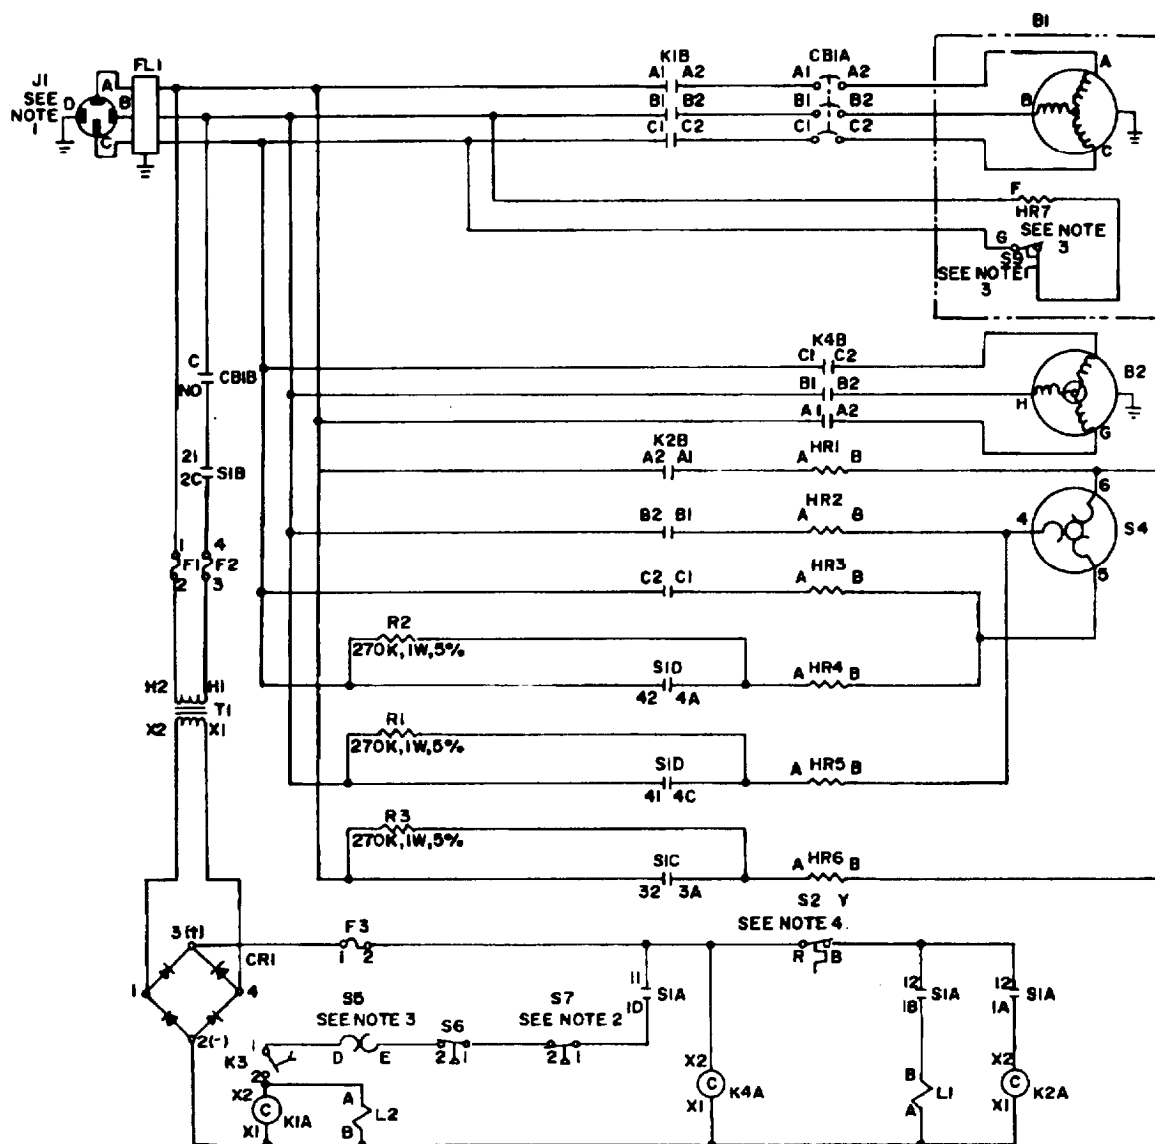

Figure 4-17. Electrical Schematic
- (8) If fan blades turn away from grille, unit power cable is not connected properly. Exchange wires connected to pins A and Bat power source connection and repeat steps (6) and (7) above.
- (9) Check unit operation in accordance with para 2-6 and 2-7.
- i. See air conditioner wiring diagram, figure 4-16, and electrical schematic, Figure 4-17, for additional wiring information.